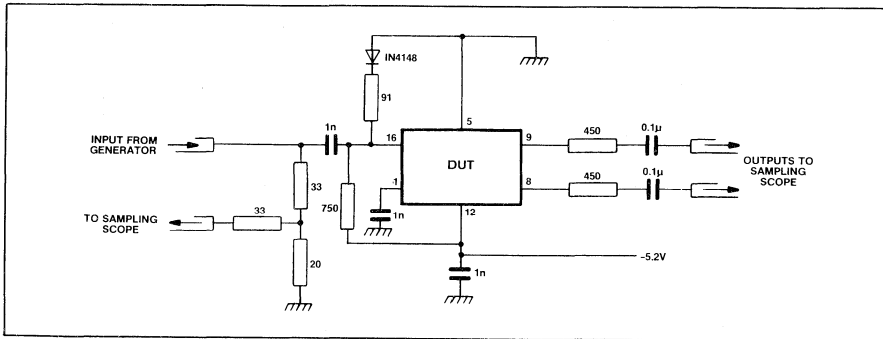

Fig.6 Test circuit
2. The test configuration for dynamic testing is shown in Fig.6.
1. The clock and control inputs are ECL III compatible. There is an internal pulldown resistor to  $V_{EE}$  of 4.3k on each input and therefore any unused input can be left open circuit. If it is desirable to capacitively couple the signal source to the clock then an external bias is required as shown in Fig. 6. The external bias voltage should be  $-1.3V$  at 25°C.